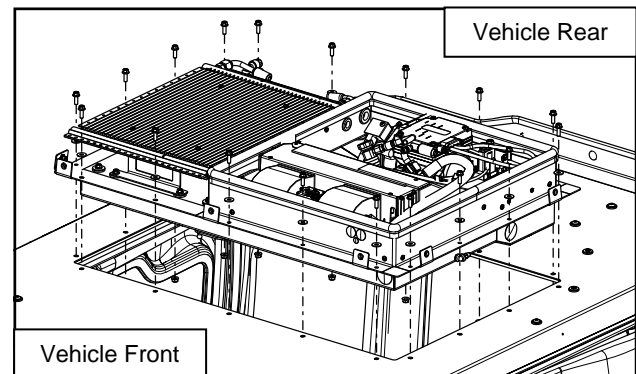

Fig. 4.2 (Insert A/C Unit)
- 4.2 With assistance, place the air conditioner unit onto the roof, center it inside of the roof's rectangular opening. Wipe away any excess silicone from inside and outside of the roof assembly. See Figure 4.2.